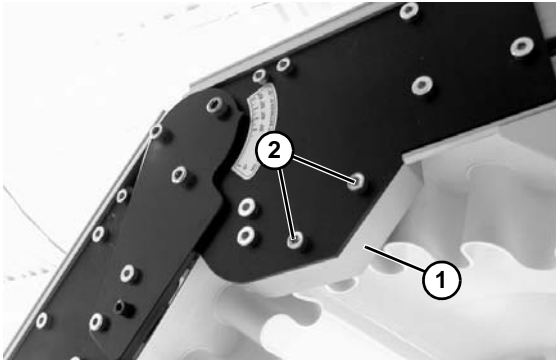

**Figure 33**
5. If equipped, install return roller bearing (**Figure 33, item 1**) into knuckle plate (**Figure 33, item 2**) using screws (**Figure 33, item 3**).